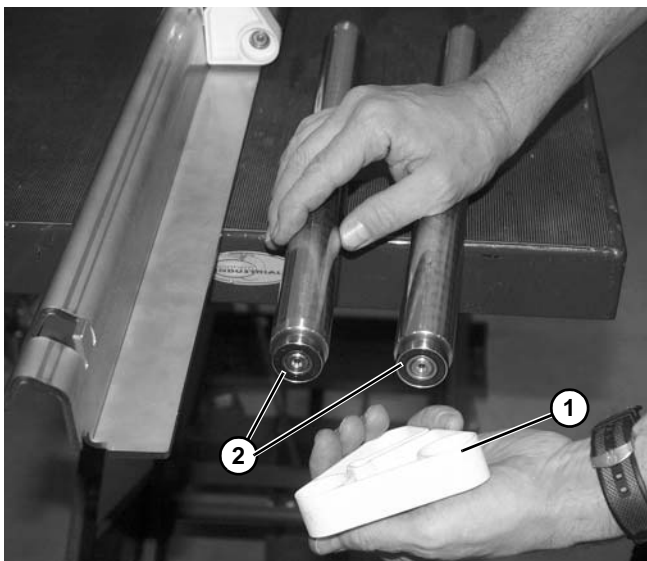

Figure 152
5. Remove pivot tail block plate (**Figure 152, item 1**) off of both roller bearings (**Figure 152, item 2**).